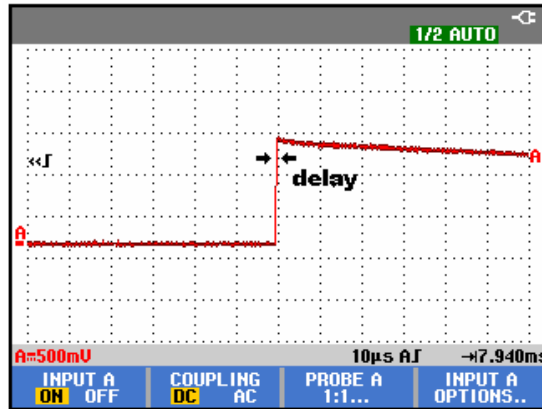

Figure 4-7. Time Base Verification.
- Using **MOVE** move the trace to the left. Once the trigger point is shifted across the left hand border of the screen, going off screen, the trigger delay time with respect to the first vertical grid line will be indicated in the lower right of the display, as can be seen in the left-hand screen in figure 4-7. Adjust the trigger delay time to 8.000 ms (**A** **Γ** **→** **8.00 ms**).
5. Examine the rising edge of the time marker pulse at the height of the trigger level indicator top. Verify that the rising edge is at the center grid line. The allowed deviation is ± 3 pixels: see Figure 4-7.